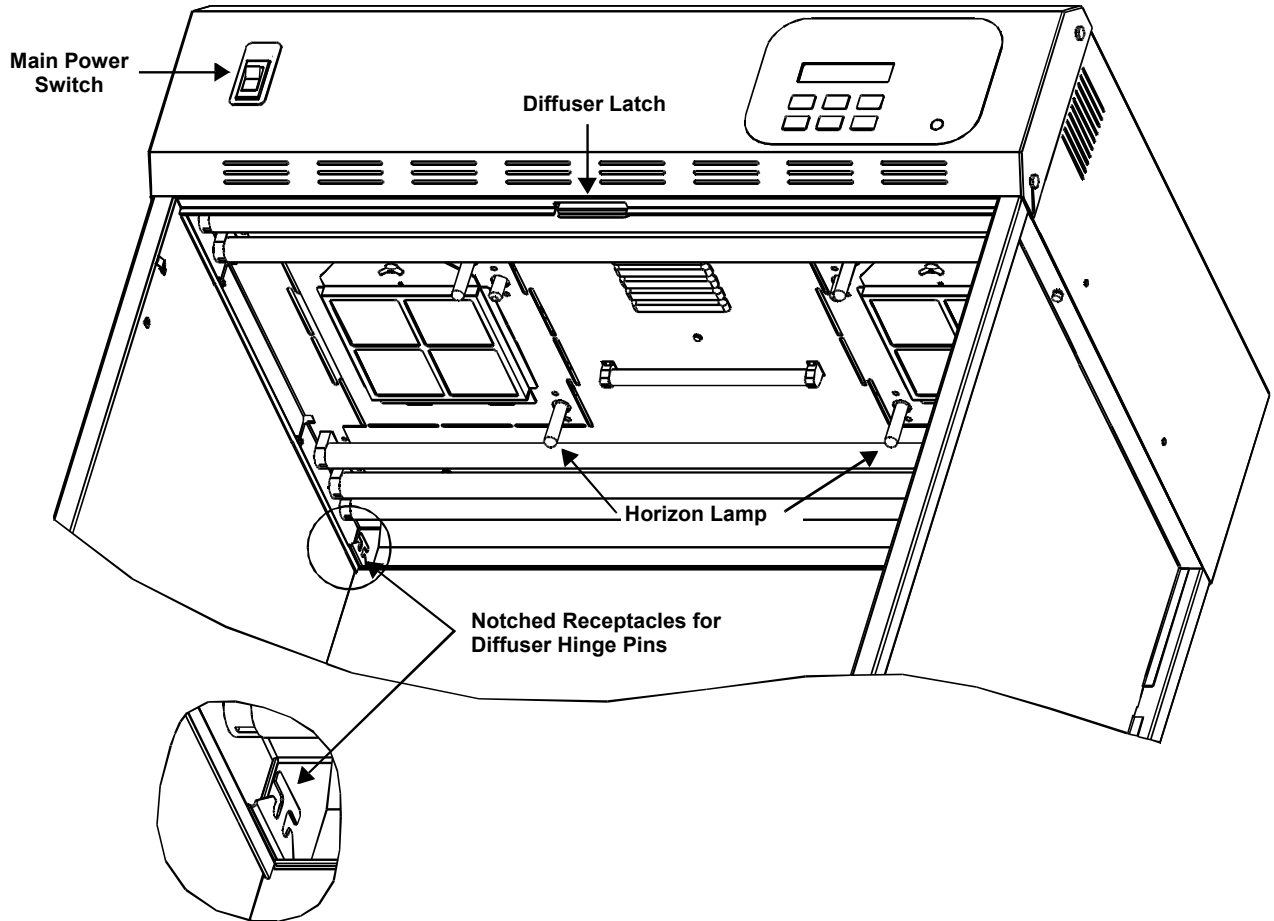

Figure 8. Luminaire Showing Diffuser
- Insert the diffuser hinge pins into the front of the slotted receptacles located at the bottom rear corners of the luminaire housing. The smooth side of the diffuser should face the interior of the luminaire, and the textured side should face out, to the interior of the booth. Refer to Figure 8.